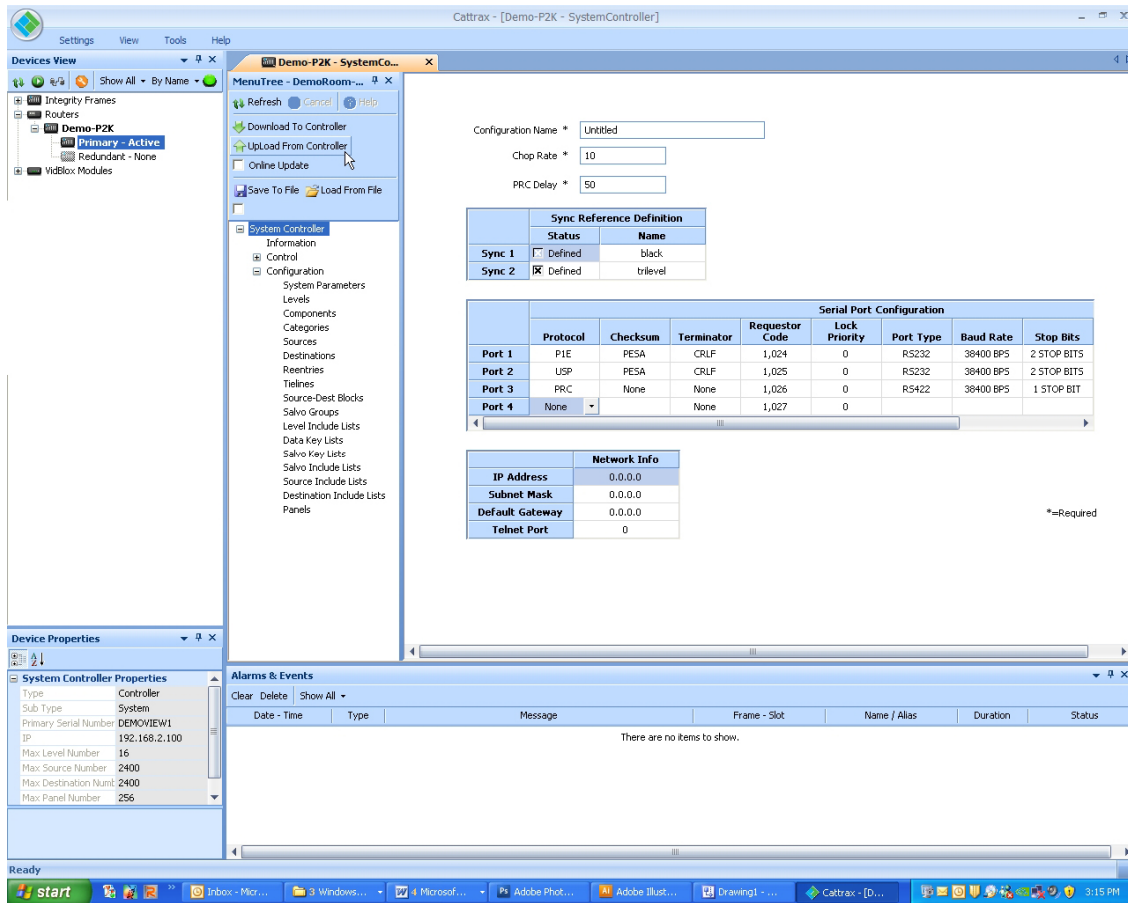

Figure 2. Catrax P2K System Controller Screen Example
2. Open Cattrax and select the *active* PERC2000 device from the Devices View column, as shown by Figure 2.